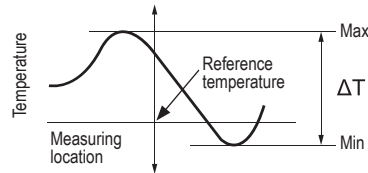

Fig. 2
- The display shows the current temperature and the temperature difference ΔT between the highest and the lowest temperature reading (fig. 2).